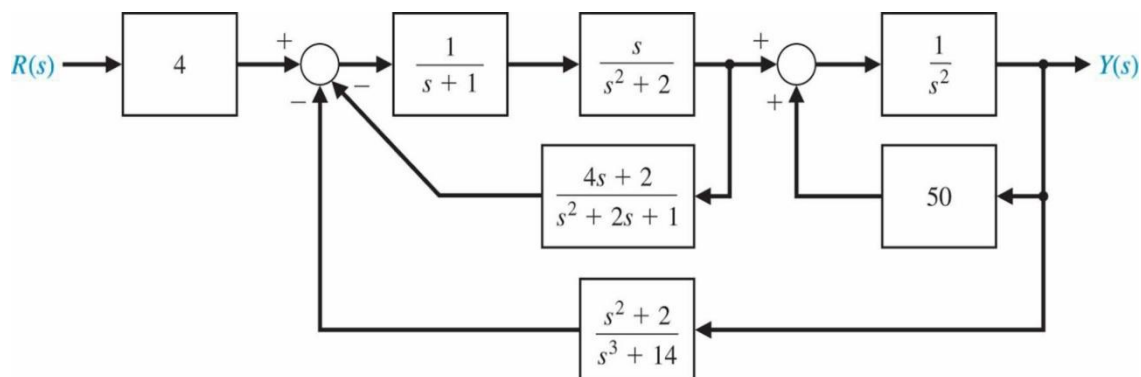

Fig. P2
Consider the block diagram in Fig. P2.
- (a) Use an m-file to reduce the block diagram in Fig. P2, and compute the closed-loop transfer function.